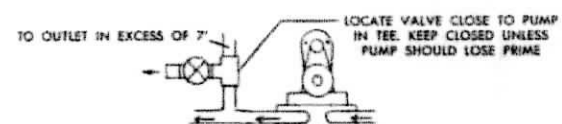

Fig. 5
- Under certain conditions on systems having outlets in excess of 7', it is necessary after refilling fresh water tank to bleed all air from system by opening both highest and lowest outlets with pump running. This may also be accomplished by the addition of a drain valve located as per fig. 5 to bleed off excessive head.